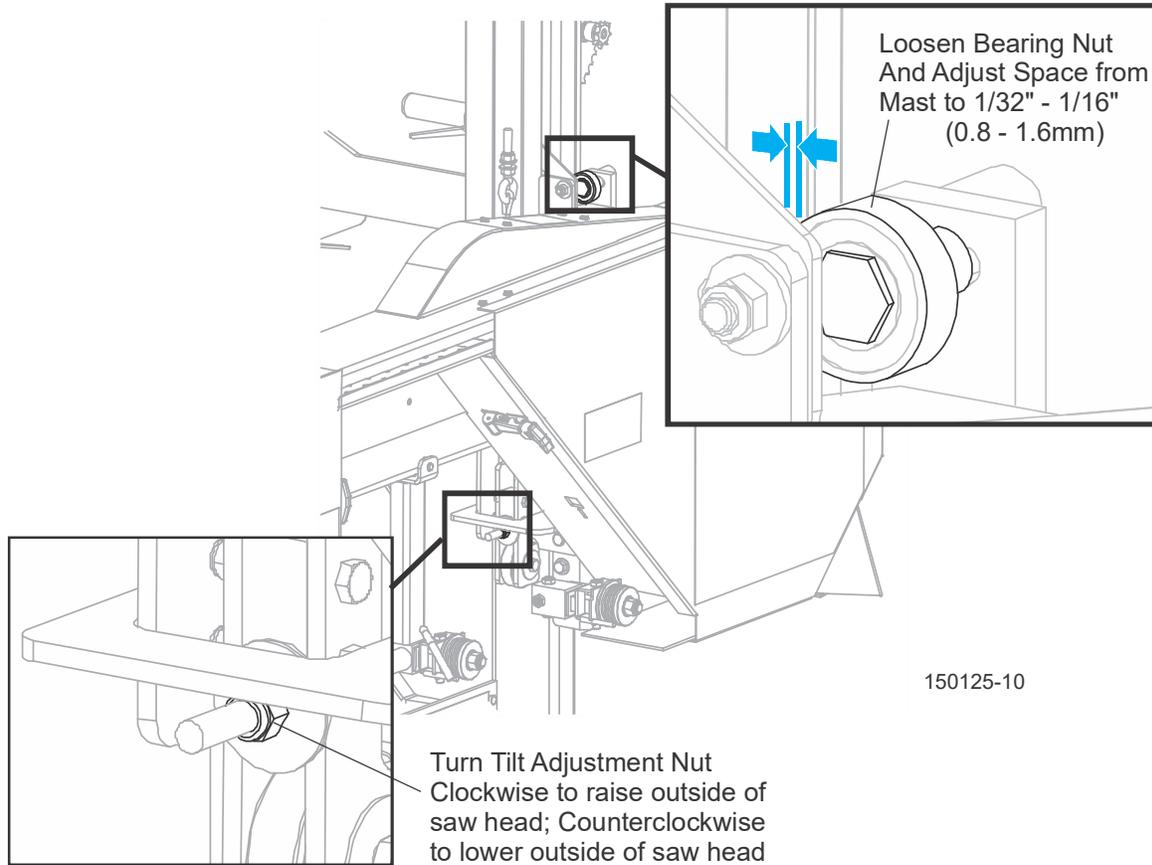

FIG. 4-2
4. Adjust as necessary so the space is 1/32" - 1/16" (0.8 - 1.6mm). See FIG. 4-2.